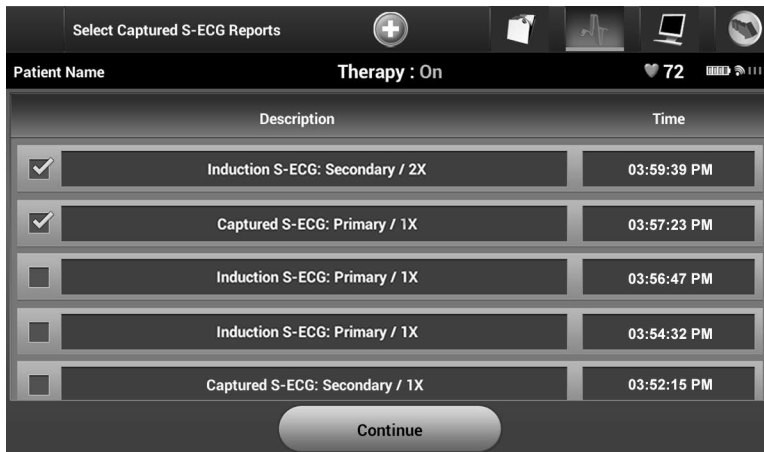

Figure 39: Captured S-ECG list (scrollable)
2. A scrollable list containing both Captured S-ECG and Induction S-ECG strips is displayed (Figure 39). Select the desired S-ECG(s) to be printed by placing a checkmark next to the selection(s).